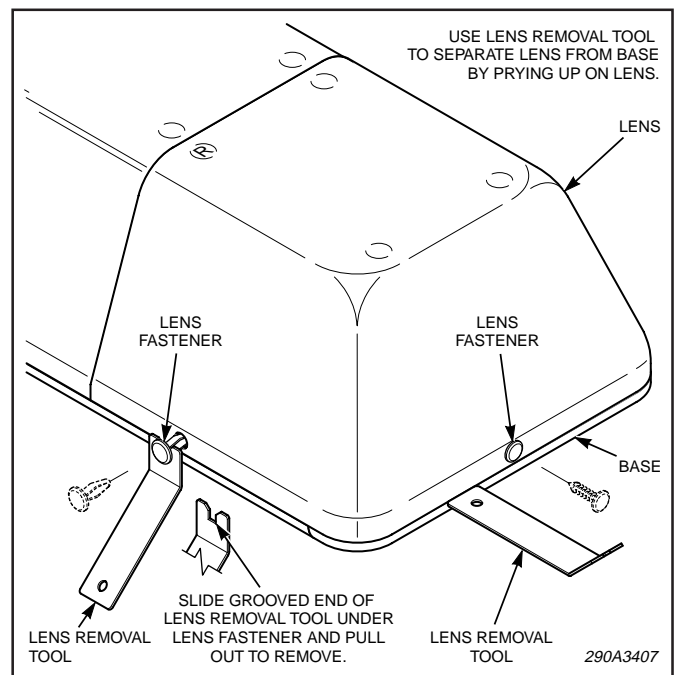

Figure 1.
- a. See figure 1. Slide the grooved end of the lens removal tool under each plastic lens fastener and pull out to remove.
b. Starting with the lens marked "R", use the end of the lens removal tool to separate the lens from the base as shown in figure 1.